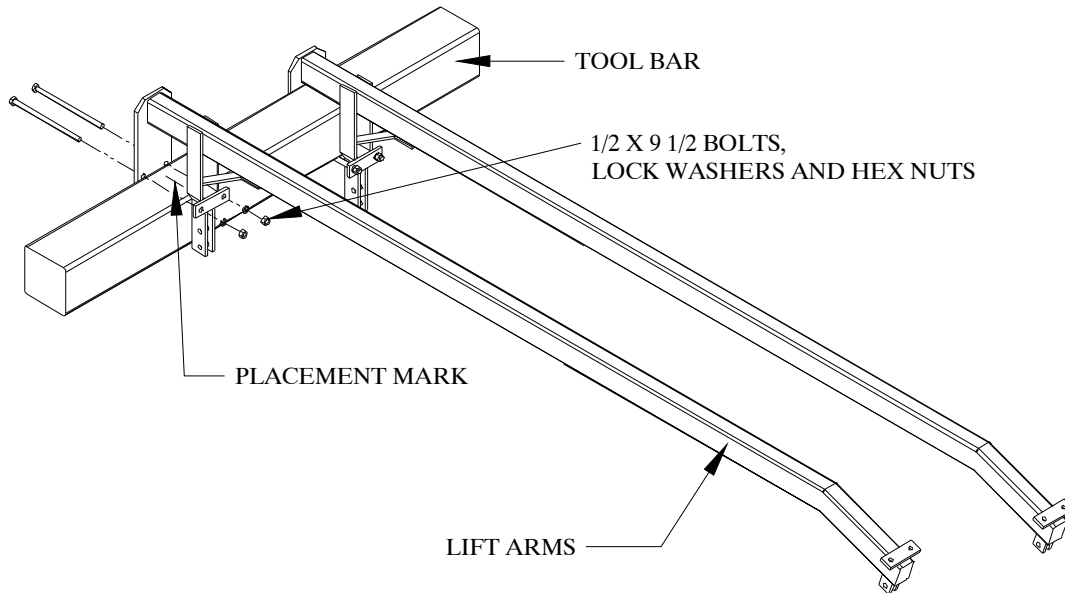

Figure 10
2. Center a lift arm on each of these marks and secure using two $\frac{1}{2}$ " x $9\frac{1}{2}$ " bolts, lock washers, and hex nuts for each lift arm. Refer to Figure 10.